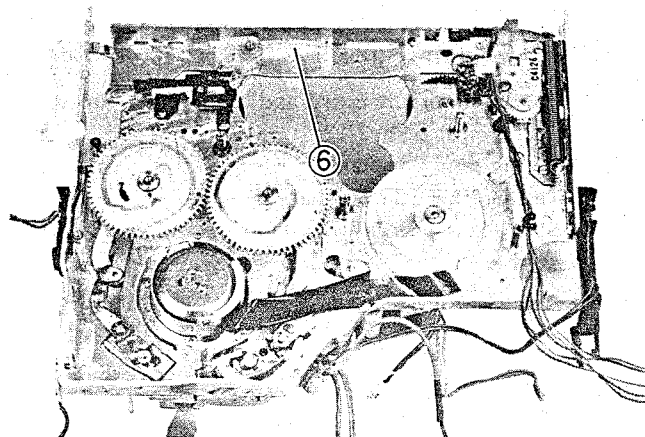

Fig. 2-116 Main Brake Arm Removal
Main Brake Arm Removal (Fig. 2-116)
7. Pull out the main brake drive arm. (See Fig. 2-116)